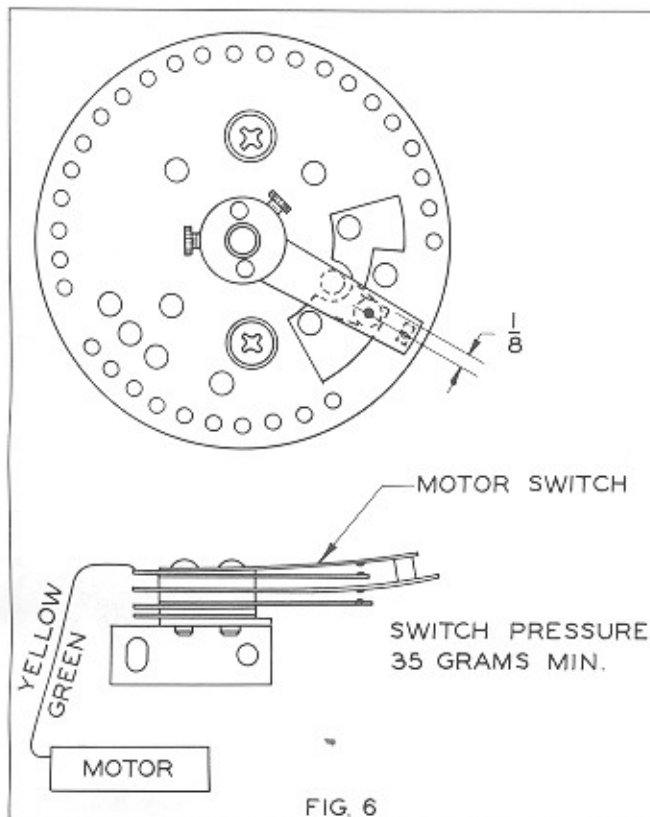

FIG. 6
4. The motor switch pressure is 35 grams minimum. The switch should be adjusted to open when the center of the contact of the short wiper arm comes to rest about 1/8" before it reaches the edge of the lower left side of the "U" position of the brass contact plate. (See Fig. 6.)